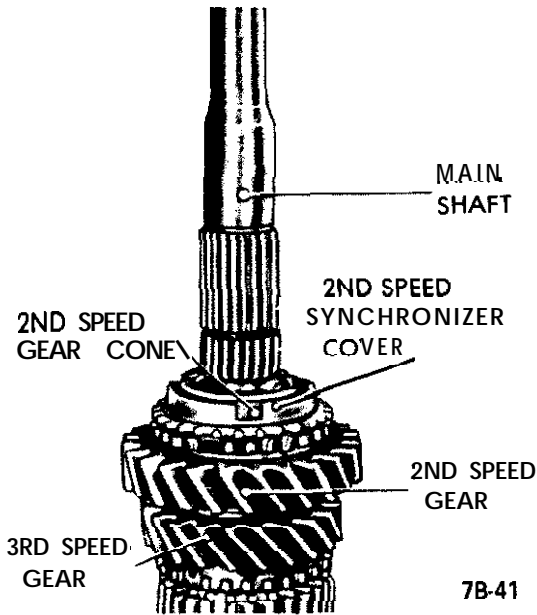

Figure 7B-41 Second Speed Gear and Synchronizer Ring Installed
7. Place second speed synchronizer cover onto second speed gear cone. See Figure 7B-41.
8. Install both synchronizer springs into first and second speed sliding gear guide unit so that hooks of both springs rest in the same guide unit shoe slot and the other spring ends are positioned opposite to each other. See Figure 7B-42.